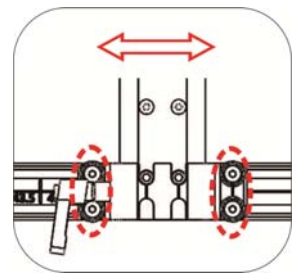

Figure 5-54
5.3.4.2.3 Use the #4 Allen Key Wrench to loosen the screws. Adjust the armrest forwards or backwards. Re-tighten the screws. (Figure 5-54)